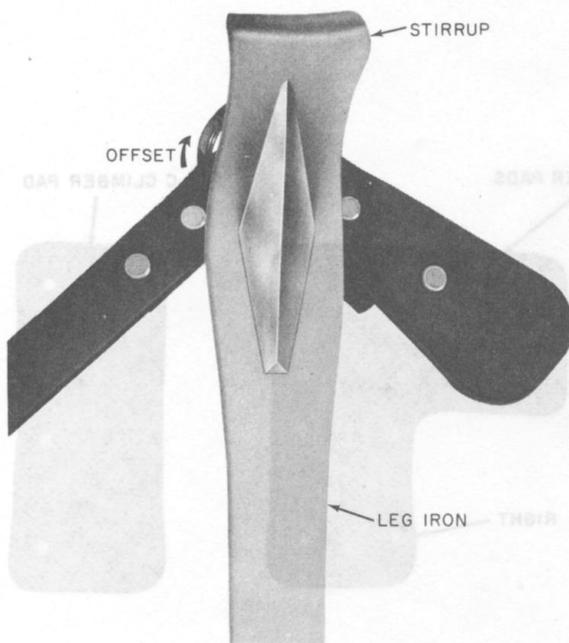

Fig. 2—Stirrup Offset "Right"
2.05 F climbers have offset stirrups, therefore, they are made for the left or right foot and are marked "L" or "R" just below the ring loop at the end of the stirrup. Some older climbers may not have been marked. Climbers can be identified as left or right by holding the climber with the gaff toward you and pointing up and noting the direction the stirrup is offset. If the offset is to the right as shown in Fig. 2, it is a right climber; conversely, if the offset is to the left, it is a left climber.